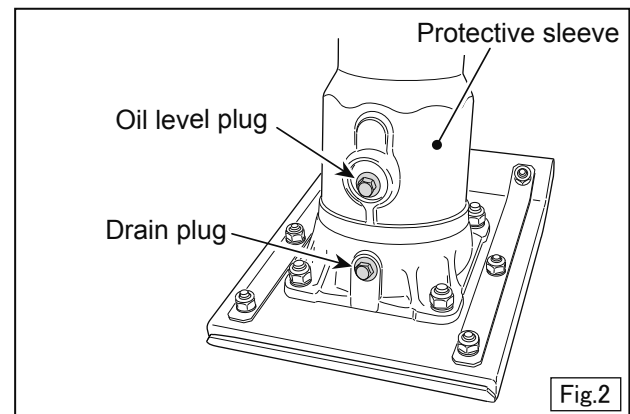

Fig.2
4. Place the machine body on a level surface and look at the oil gauge on the protective sleeve, from the right side. See if the oil is at the specified level. (Fig.2)